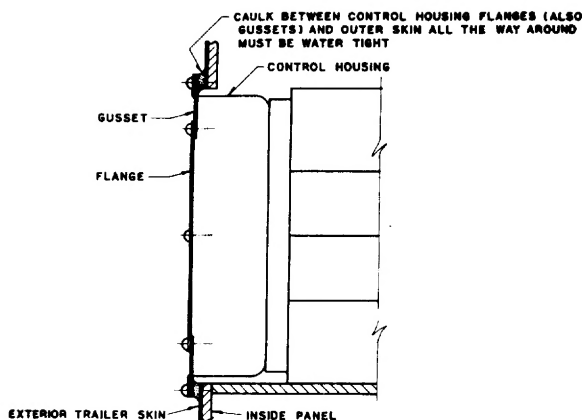

Figure 4
B. Caulk around opening and/or behind flanges and gussets as illustrated in Figure 4. NOTE: Purpose of caulking is to assure a water tight seal between control housing and exterior coach skin.
H. Place door hinge pin retainer bracket over hinge pin. Align with mounting holes in control housing and secure to coach wall using No. 8 x 3/4" wood screws. NOTE: Be sure control housing is tightly secured to coach wall (twelve places) and sealed water tight. (See Figure 4)